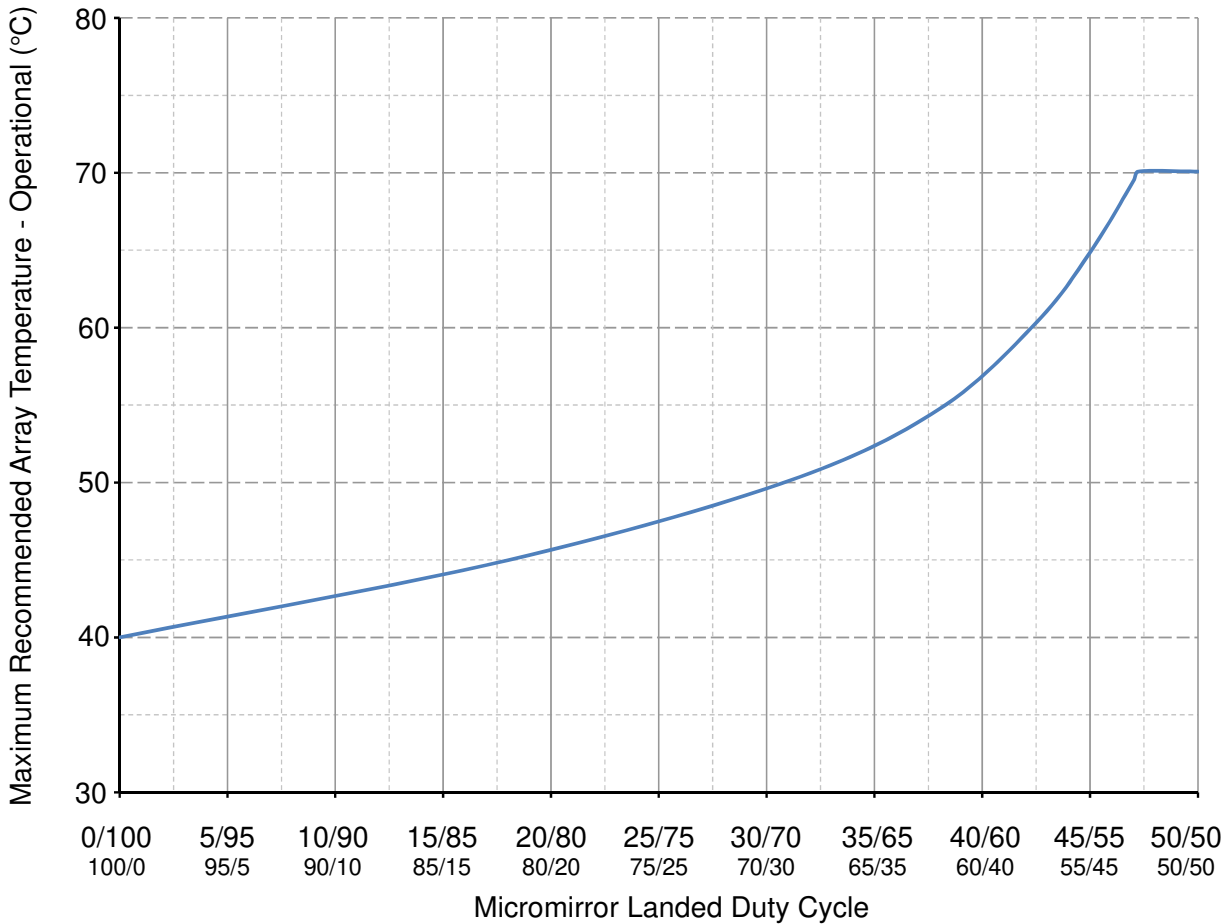

Figure 6-1. Maximum Recommended DMD Temperature – Derating Curve
- (11) Long-term is defined as the average over the usable life.
- (12) Per Figure 6-1, the maximum operational array temperature should be derated based on the micromirror landed duty cycle that the DMD experiences in the end application. See Section 7.5 for a definition of micromirror landed duty cycle.
- (13) Array temperatures beyond those specified as long-term are recommended for short-term conditions only (for example, power-up). Short-term is defined as cumulative time over the usable life of the device and is less than 500 hours.